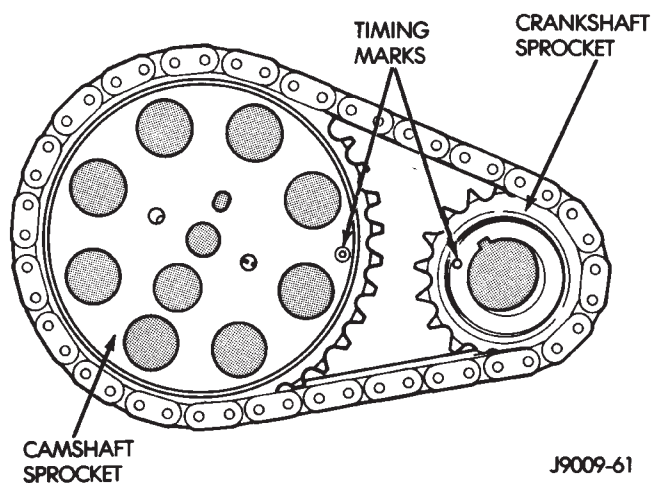

Fig. 11 Timing Chain Alignment—Typical
- (7) Remove the serpentine drive belt.
- (8) Remove the crankshaft vibration damper.
- (9) Remove the timing case cover. Clean the gasket material from the cover.
- (10) Remove the thrust pin and tension spring from the preload bolt head.
- (11) Rotate crankshaft until the crankshaft sprocket timing mark is closest to and on the center line with the camshaft sprocket timing mark (Fig. 11).
- (12) Remove the camshaft sprocket preload retaining bolt and washer.
- (13) Remove the crankshaft oil slinger.
- (14) Remove the sprockets and chain as an assembly.
- (1) Clean the camshaft pin hole.
- (2) Compress the center of the replacement spring pin with vise grips.
- (3) Carefully drive the pin into the camshaft pin hole until it is seated.
- (4) Install the camshaft sprocket, crankshaft sprocket and timing chain with the timing marks aligned (Fig. 11).